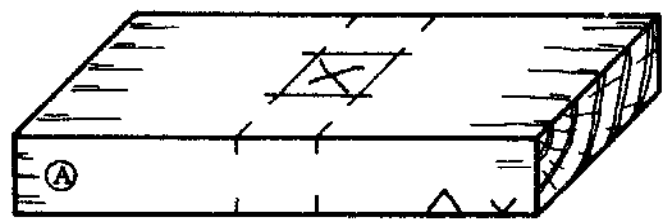

Fig. 5
- Use the same setting to mark both faces of piece A and use a try square and (already smoothed) piece B to mark the remaining two lines for the width of the mortice (Fig. 5). Mark the waste with a small cross.